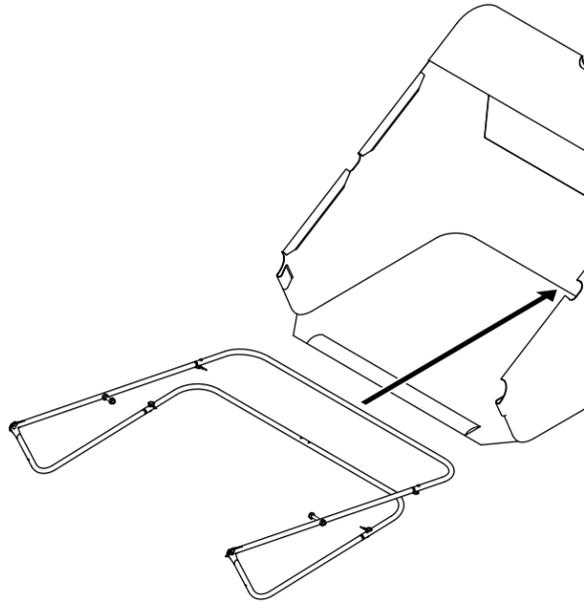

Figure 10
STEP 10 (SEE FIGURE 10): Slide the bag frame into the hopper bag.